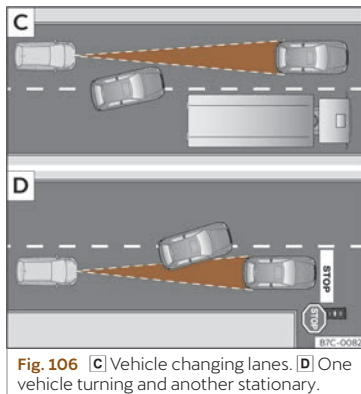

Fig. 106 [C] Vehicle changing lanes. [D] One vehicle turning and another stationary.
- Vehicles that move into your lane, a short distance from your vehicle >>> **Fig. 106 [C]**.
The ACC may not react to stationary vehicles. If, for example, a vehicle detected by the ACC turns or moves over and there is a stationary vehicle in front of it, the ACC will not react to the second vehicle»» **Fig. 106** .